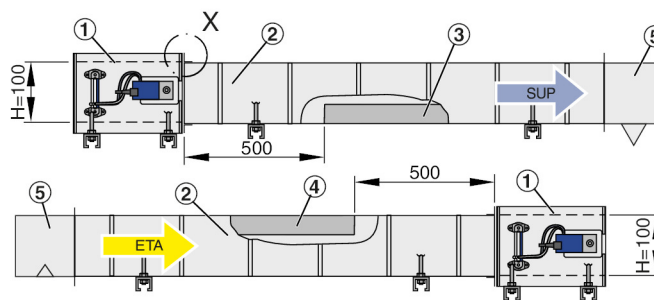

Fig. 24: Installation of sound attenuator TX H = 100 mm
- Secondary silencer TX can be installed directly upstream/downstream of the air terminal unit, non-active section to the air terminal unit, Fig. 24.